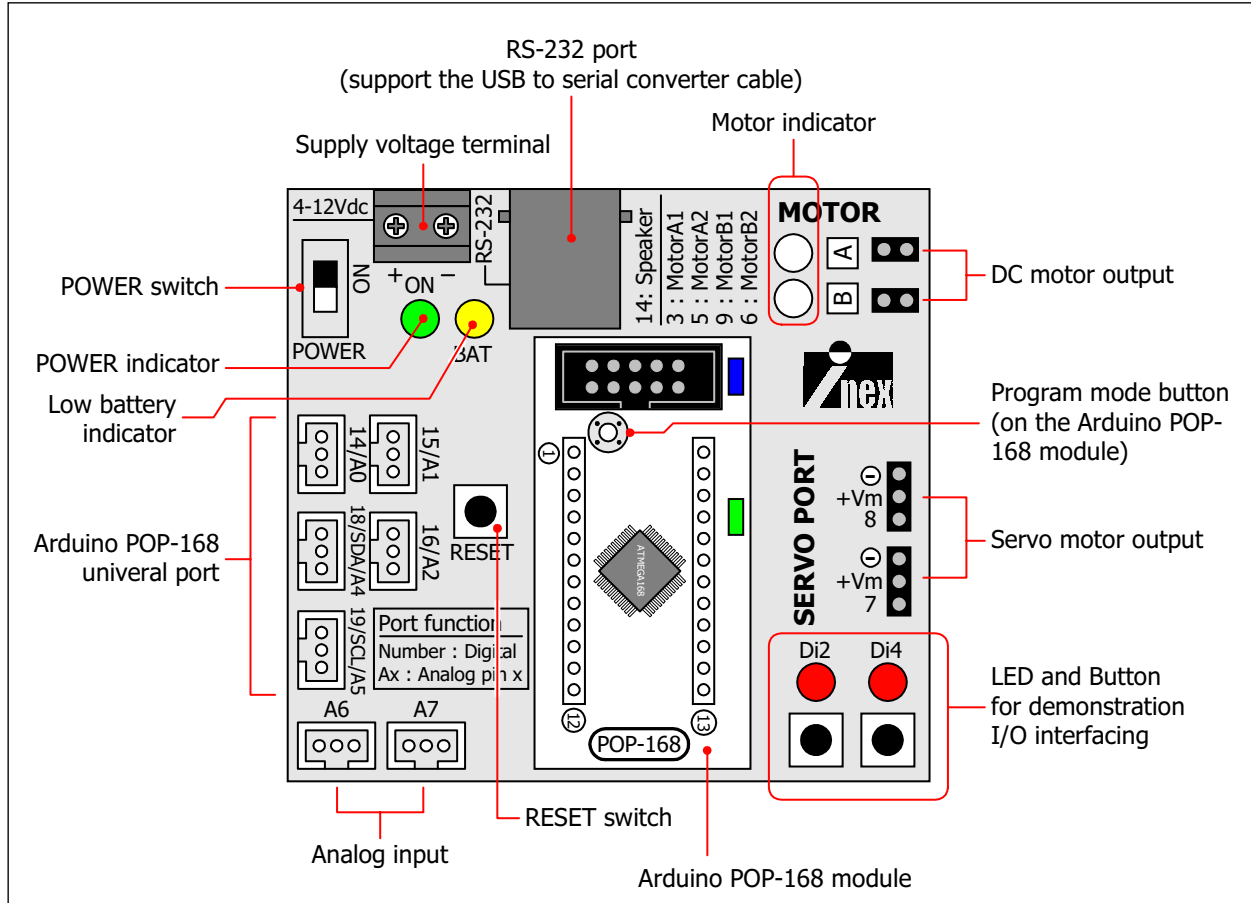
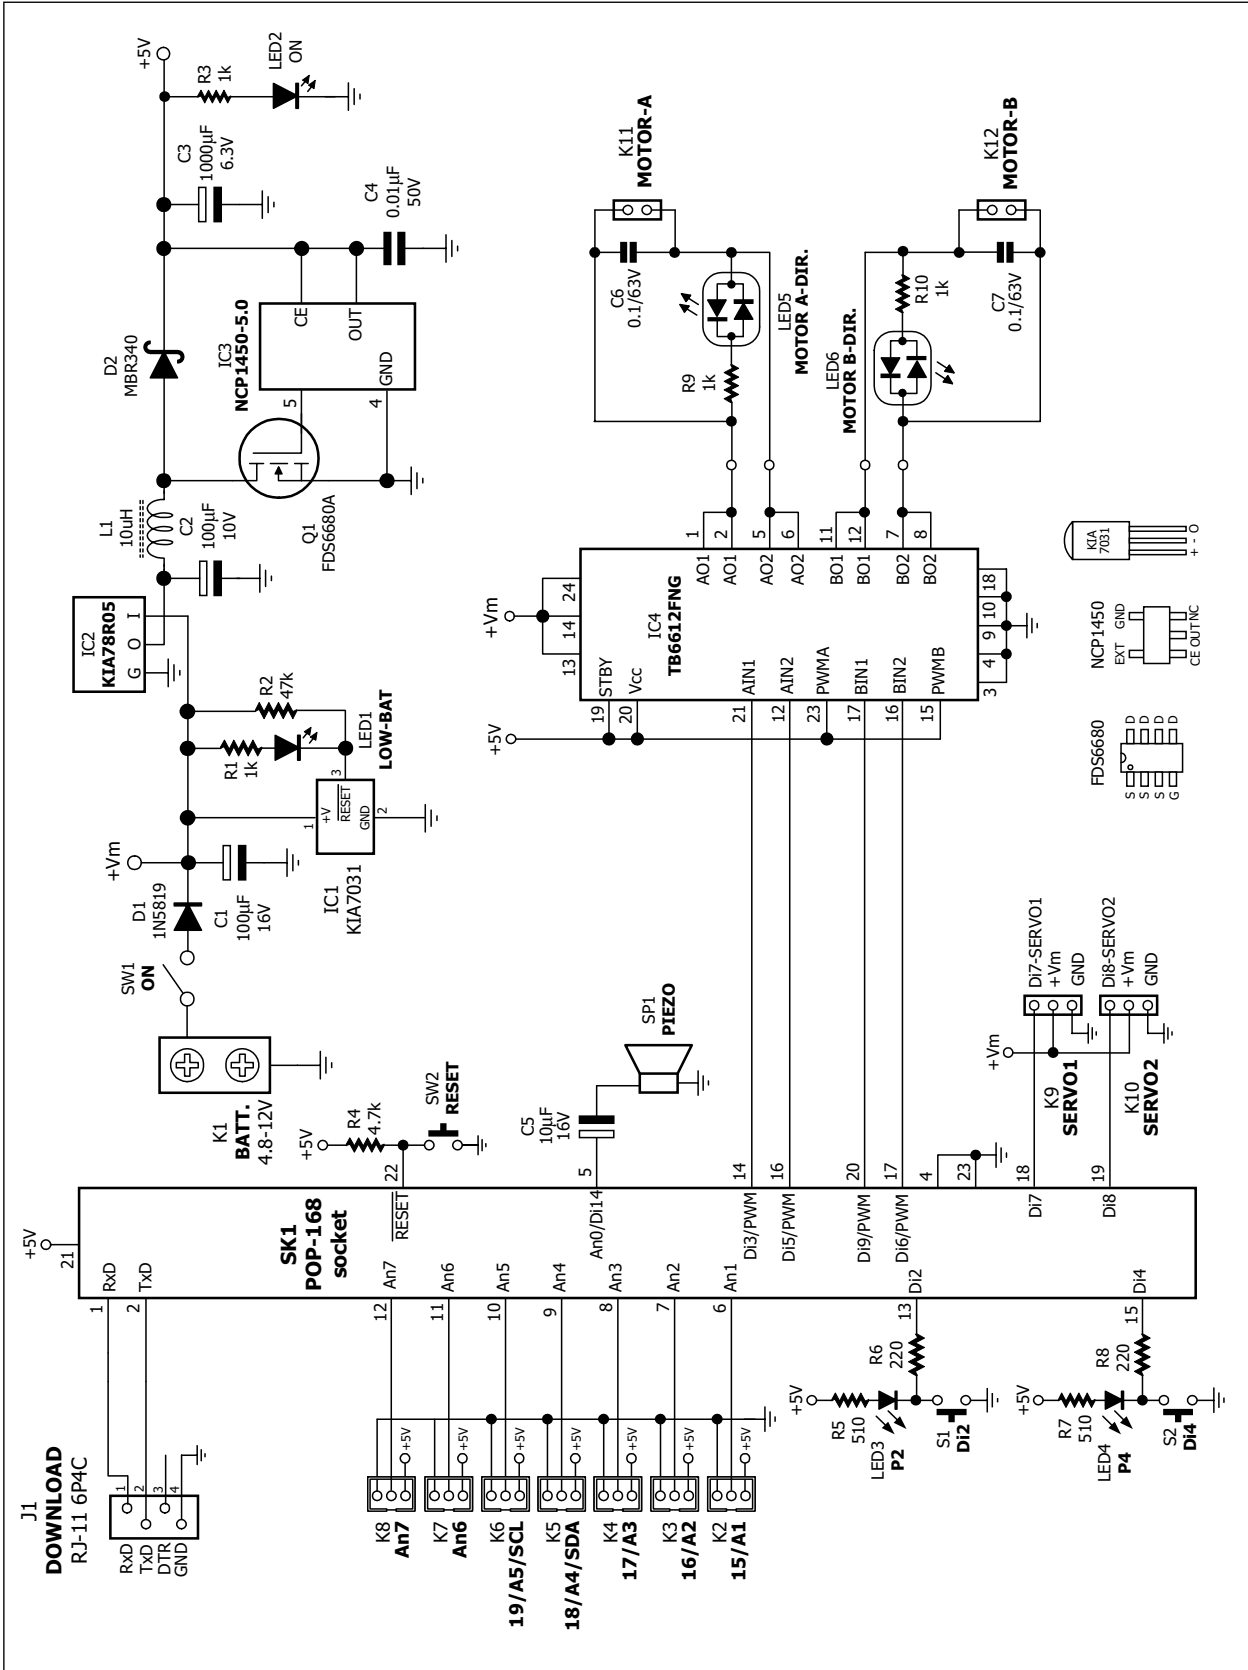

Figure 1-2 The layout of RBX-168 controller board
Figure 1-3 The completely schematic diagram of RBX-168 controller board
The RBX-168 Robot controller board is a complete, low-cost development platform designed for those interested in learning and using Arduino POP-168 module in robotic applications. Its compact size, convenient features, and low price make it an ideal tool for the student and educator. Figure 1-2 shows the layout of RBX-168 board and complete schematic diagram of its is shown in the figure 1-3. The summarized technical feature of the RBX-168 board is as follows :
- Piezo speaker connections (do not show in the figure 1-2; it is fixed at bottom circuit board of RBX-1689 board. It is connected with POP-168 An0/Di14 pin.